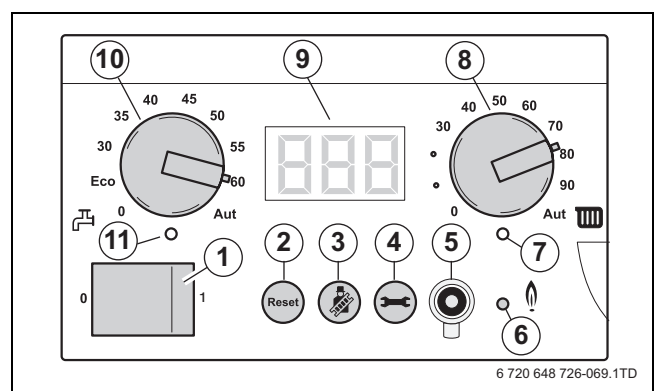

Fig. 90 BC10 basic controller
- ▶ Switch off the power supply to the heating system (→ fig. 90).
- ▶ Switch off the heating system by pressing the mains switch of the BC10 basic controller (→ fig. 90, [1]).
- ▶ Switch on the heating system by pressing the mains switch of the BC10 basic controller (→ fig. 90, [1]).
- ▶ Press and hold the "Chimney sweep" button (→ fig. 90, [3]) (approx. 2 seconds), until the dot in the right-hand bottom corner of the display (→ fig. 90, [9]) appears. See also table 10, "Flue gas test", page 42.
- ▶ After the "Burner" LED (→ fig. 90, [6]) has lit up wait for one minute until the boiler is burning at full load.
- ▶ Press the "Chimney sweep" button (→ fig. 90, [3]) to clear the reading. See also table 10, "Flue gas test", page 42.
- ▶ After the "Burner" LED (→ fig. 90, [6]) has lit up wait for one minute until the boiler is burning at part load.
- ▶ Press and hold the "Chimney sweep" button (→ fig. 90, [3]) (approx. two seconds), until the dot in the right-hand bottom corner of the display (→ fig. 90, [9]) appears. See also table 10, "Flue gas test", page 42.
- ▶ Switch off the heating system by pressing the mains switch of the BC10 basic controller → fig. 90, [1]).